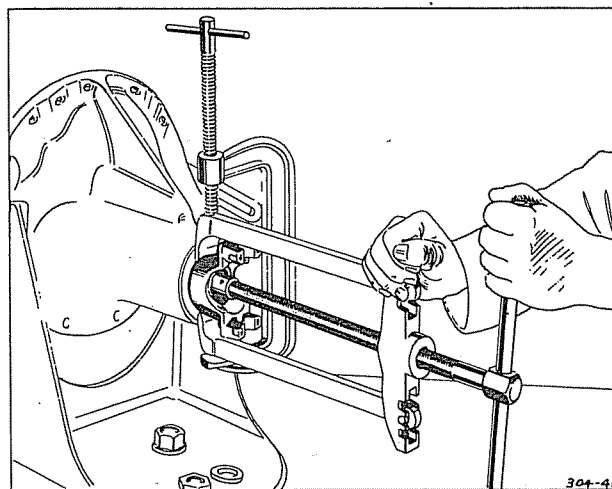

Fig. 25—Removing Drive Pinion Flange With Puller CM 549.
- (1) Disconnect rear universal joint.
- (2) Remove drive pinion yoke nut, washer, and remove yoke (Figure 25).